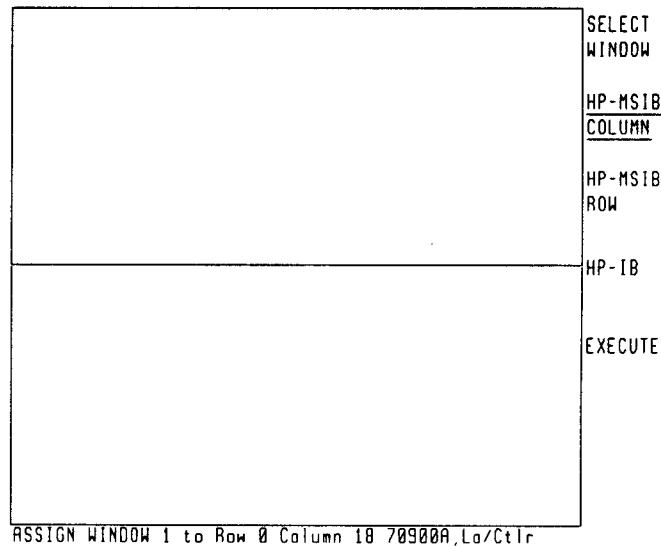

Figure 2-21. Building the First Window
2. Press **HP-MSIB COLUMN** and turn the knob until the bottom line on the screen shows that an HP 70900B Local Oscillator module has been found, as in Figure 2-21 (the factory default address is 0,18).